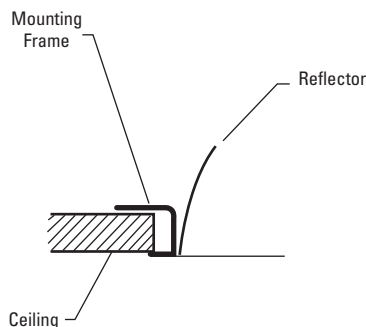

Figure 3
3. Once mounting frame has been secured in structure, adjust the mounting frame vertically to align the bottom edge to either flush or slightly above (1/8" max) the ceiling line as shown in Figure 3. Secure mounting frame into position by closing the clamping latch arms.
If non-flexible wiring methods are used follow procedure for flexible wiring methods. Then lower mounting frame equal to the thickness of the finished ceiling or slightly above as shown in Figure 3.